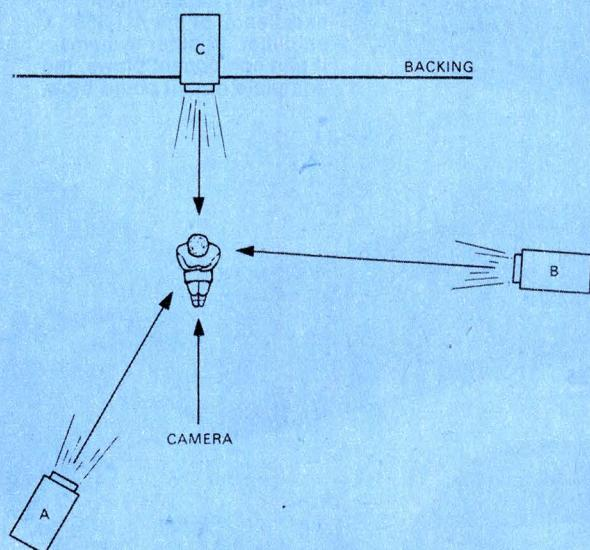

Figure 2: Showing how the basic plot of figures 1a and 1b can be modified to use a hard source for the fill light.
the modelling achieved by the modelling light. The basic plot would then be as shown in figure 2.
**ADDING AN S-METER** (February, 1970). In describing the operation of figure 2 at switch on, the meter is subject to a forward voltage and not a reverse voltage as stated in the text.